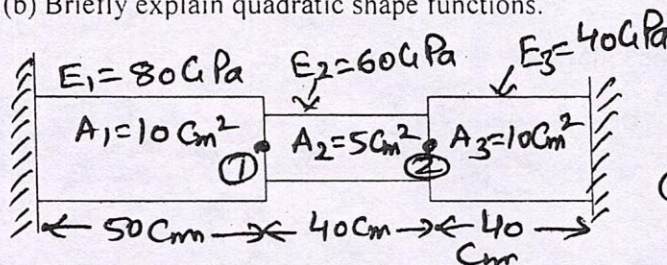

Fig. 3
Q3: (a) A stepped bar is shown in the figure 3. Using a suitable finite element method, find the displacement, element stresses and reaction at its nodes. (8)